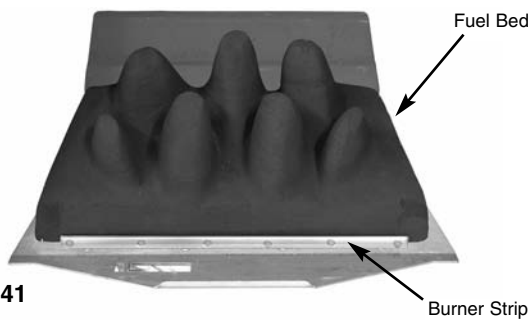

Fig. 41
2. Place the main fuel bed on to the middle section of the metal burner tray. It is important that the front edge of the fuel bed is located behind the burner strip (Fig. 41).